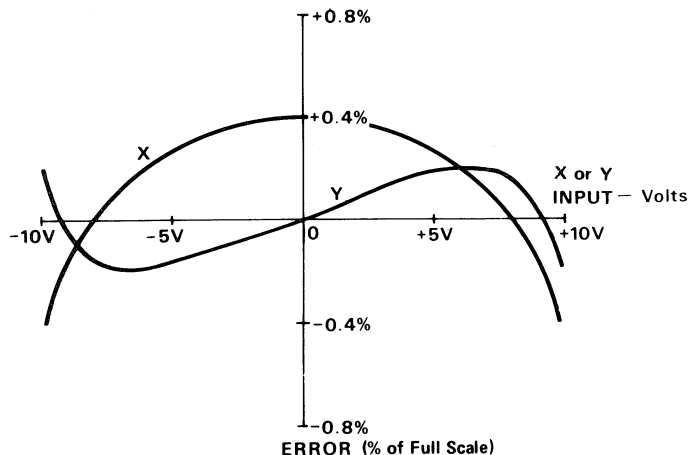

Figure 6. Typical X and Y Nonlinearity for $kI_Z = 10V$
2. See also Figure 6.
Typical curves for V_X and V_Y nonlinearity are shown in Figure 6. However, the actual wave shapes for each can vary significantly from that shown. The V_X/kI_Z nonlinearity is shown in Steps 5 and 6 of the trim procedure section.